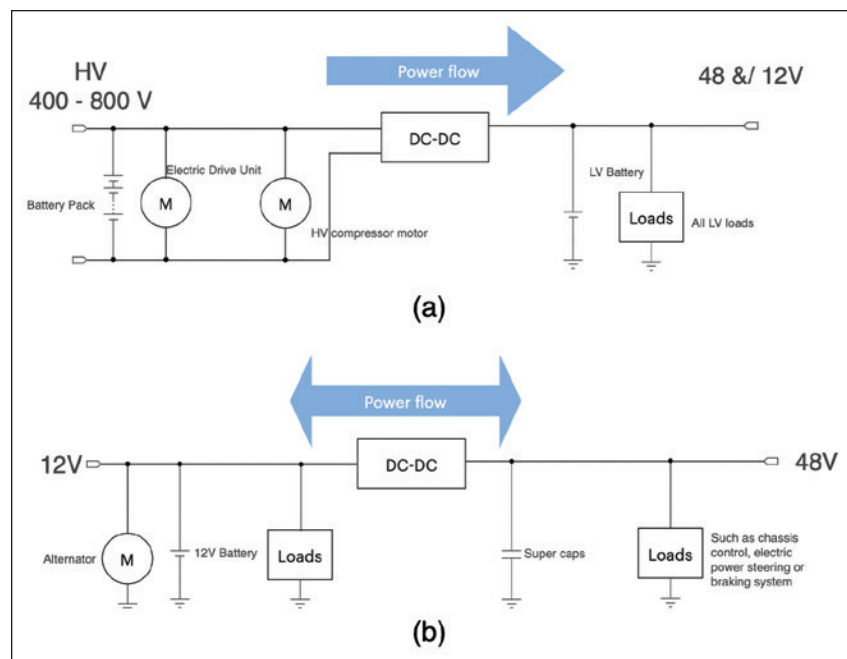

Figure 1: Two types of DC-DC converters for automotive applications
There are generally two types of DC-DC converters for automotive applications. As shown in Figure 1(a), for a pure battery electric vehicle (BEV), a DC-DC converter replaces the alternator typically used in an internal combustion engine (ICE) vehicle. It steps down high voltage (HV) to low voltage (LV). The power rating of such converters is often around 3 kW.
For a hybrid vehicle or a plug-in hybrid vehicle (PHEV), a smaller power DC-DC converter (often below 1 kW) transfers power between the 48V and 12V power rails. This type of converter is often bi-directional, enabling power to go in both directions. A 48V power rail is needed for functions such as power steering, power braking, jump start, etc. Often on the 48V power rail, supercapacitors can be used to provide extra power for a very short period. This can be seen in Figure 1(b).